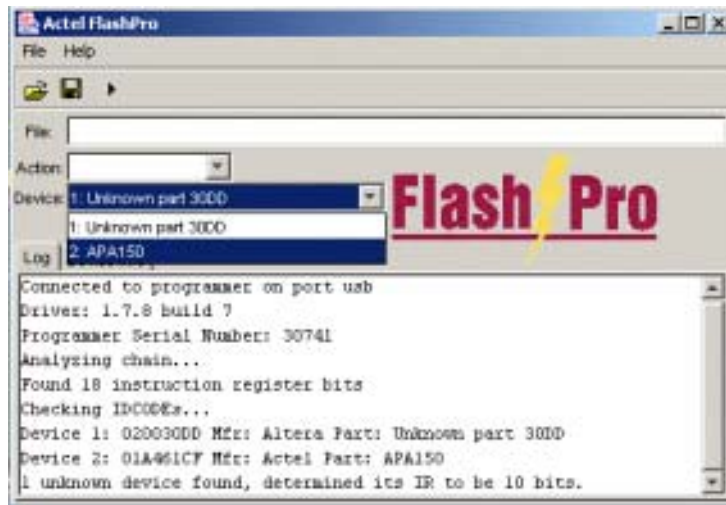

Figure 2-18. Unknown Device with Known ID
**Note:** In Figure 2-18, the part name of the device is listed because it is an unknown device with a known device ID.